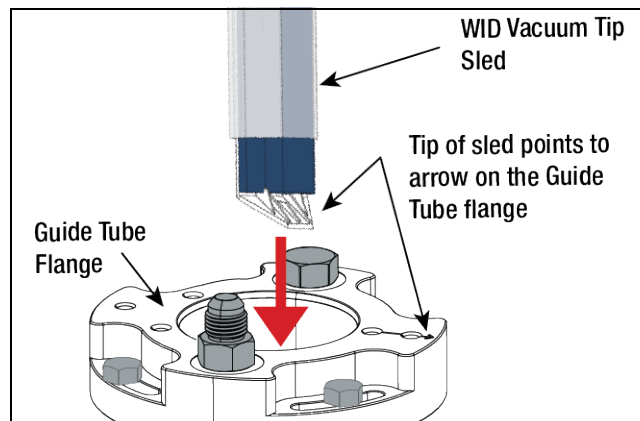

Figure 9. Installing WID
2. At the Guide Tube flange uncoil the WID tubing assembly while pushing the WID down into the Guide Tube flange (see Figure 9). Continue uncoiling/pushing the tubing assembly down until the WID flange seats against the Guide Tube flange. Since the Guide Tube is locked in the desired direction, the WID tubing's rectangular end will follow the desired path to the middle of the tank's low end.